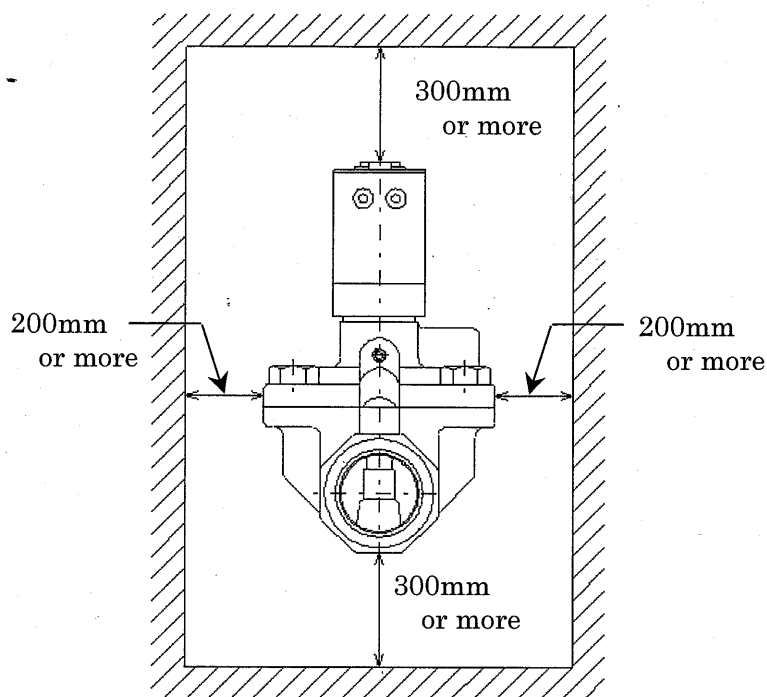

Fig. 2
- (1) By taking safe maintenance and troubleshooting work into consideration, keep adequate spaces around the valve. (Fig. 2)